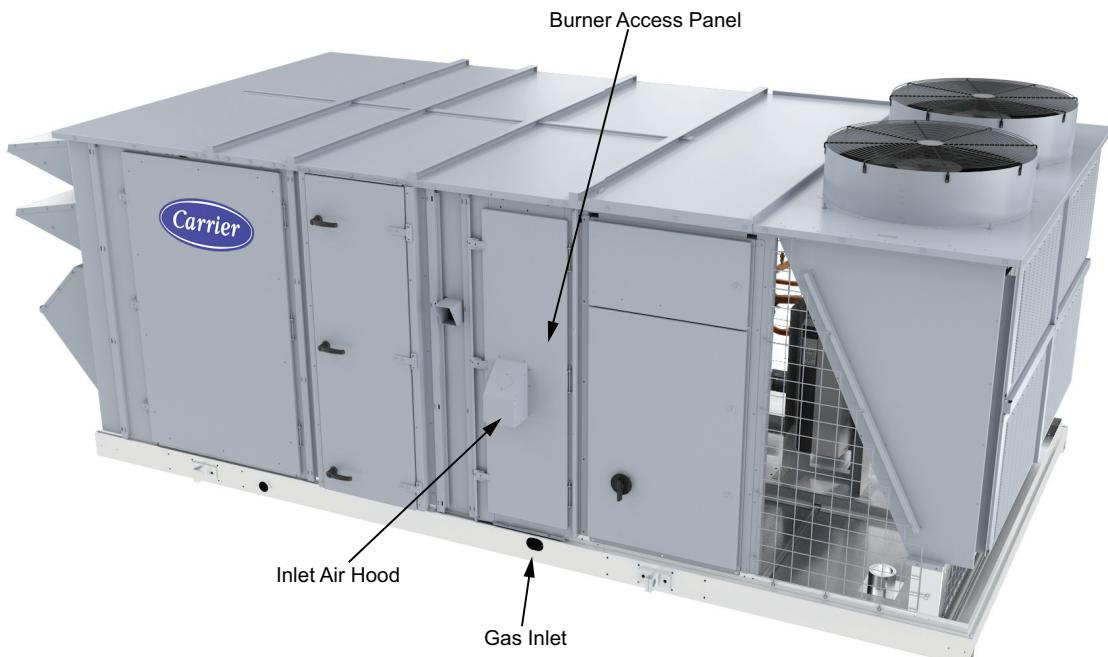
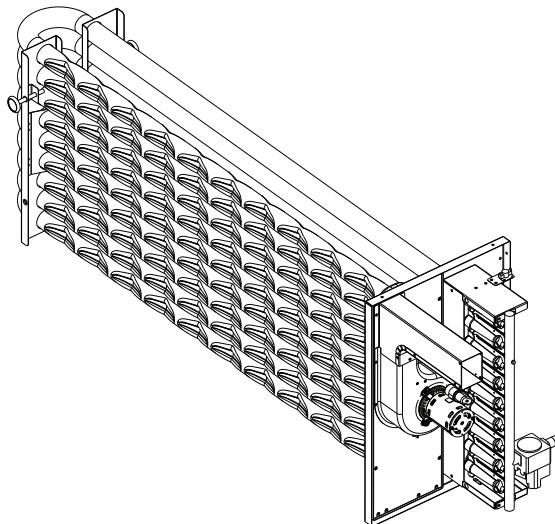
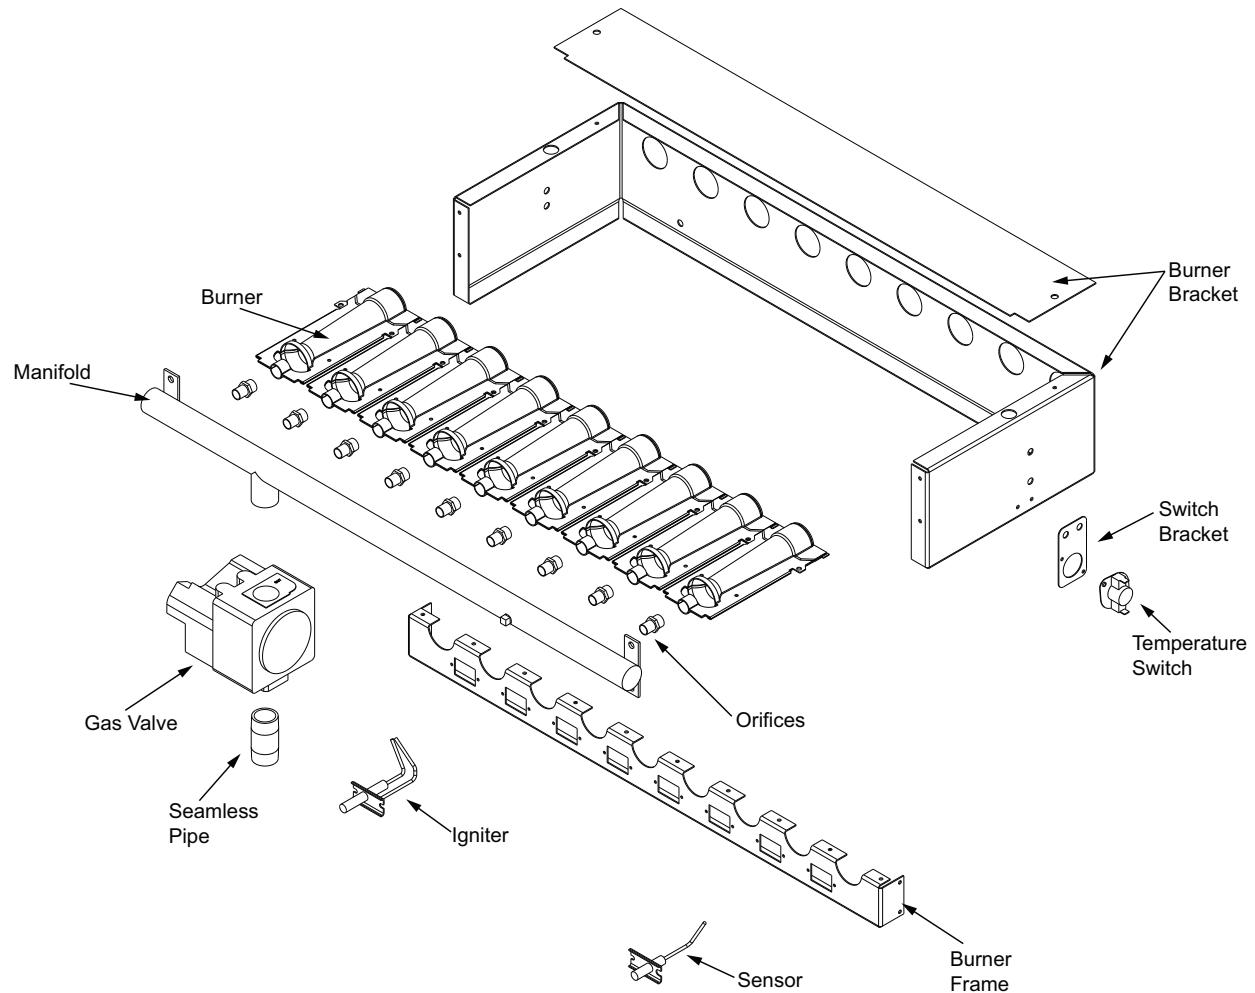
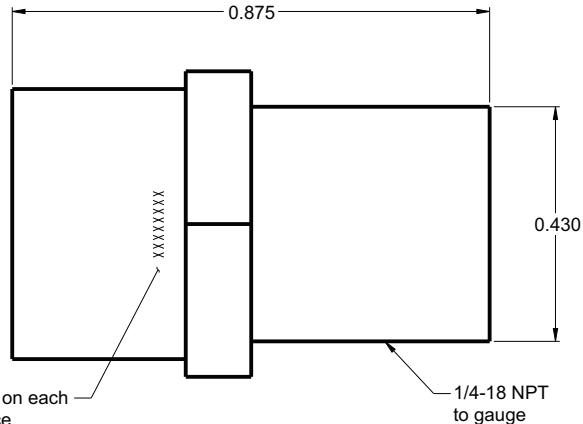

Fig. 1 — Typical Low Gas Heat Unit
Fig. 2 — Gas Heat Burner Assembly
Fig. 3 — Gas Heat Burner Parts (Exploded View)
Fig. 4 — Orifice Projection
Four different gas conversion kits are available, as shown in Table 1. Each kit contains a particular range of orifice sizes plus, hardware and labels necessary for converting the unit. See Fig. 1 for typical low gas heat unit access location. See Fig. 2 and 3 for burner assembly parts and installation. See Fig. 4 and 5 for orifices and spark gap dimensions. See Fig. 6-9 for applicable label.
3. Remove gas heat access panel. Refer to Fig. 1 for access panel location.
4. Separate burners from frame by removing screws. Save screws. See Fig. 2 and 3 for burner assembly and parts information.
5. Replace orifices with those provided in accessory LP conversion kit. See usage and contents in Table 1. See Fig. 3 for typical orifice locations. See Fig. 4 for orifice projection dimensions.
5. When all burners ignite, adjust regulator for 3.5 in w.g. manifold pressure. Check manifold and orifices for leaks. See Fig. 4 for orifice projection details.